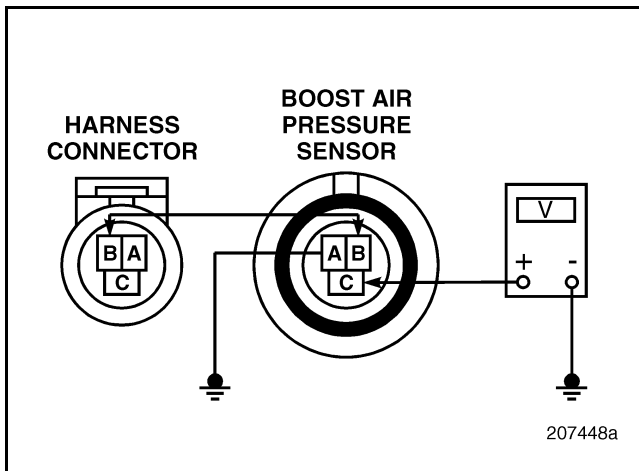

Figure 193
- Measure the voltage between BAP Sensor pin C and a good ground at various pressures between 0 psi and 60 psi (see Figure 193). The correct pressure and output voltage specifications are shown in the table below.